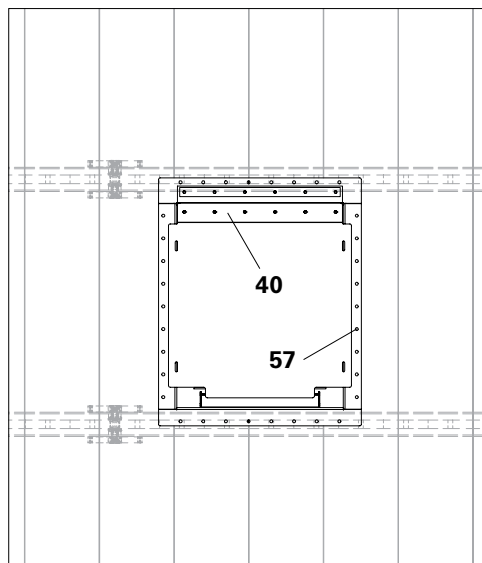

Fig. B3.06
3. Screw the hatch frame to the platform decking using screws TSS-Torx 6 x 40 (**57**). (Fig. B3.06)